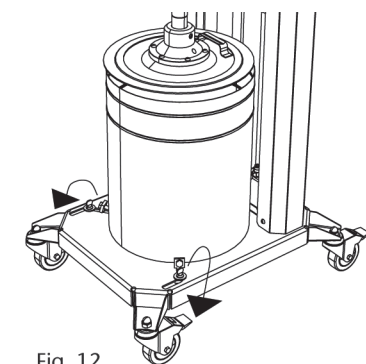

Fig. 12
- Open the pail fasteners (fig. 12).
- Öppna hink-fästdonen (bild 12).
- Open the pail fasteners. (fig. 12).
- Close the pail fasteners (fig. 12).
- Turn the lifter control (pos.1) to the "off" position. The pump and the follower plate will approximate to the pail.
- Turn the lifter control (pos. 1) to the "down" position.
- When the grease is pushed out from the follower plate air bleeder opening, switch lifter control (pos. 1) to the "off" position.